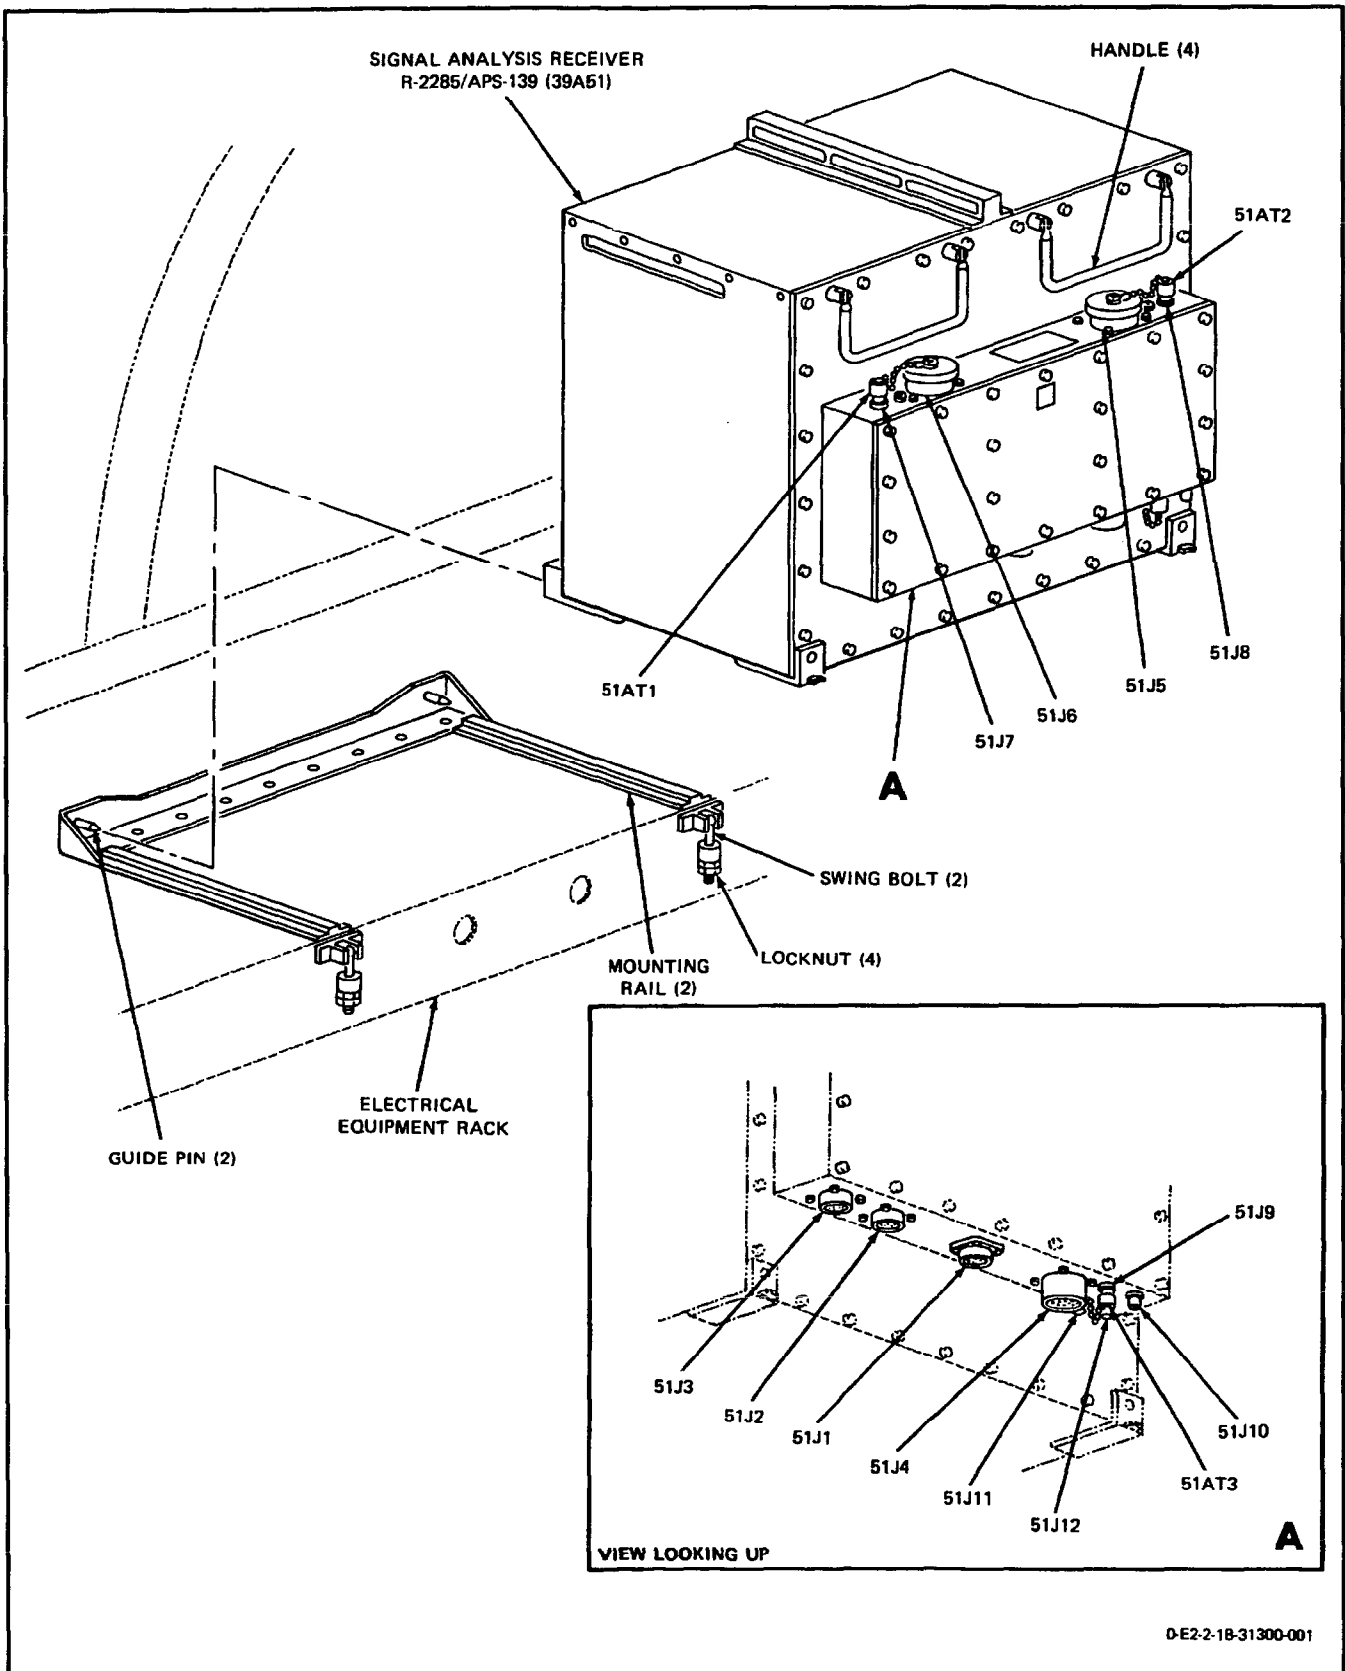

Figure 1. Removal and Installation of Signal Analysis Receiver R-2285/APS-139
**3. REMOVAL.** (Figure 1.)
#### 4. INSTALLATION. (Figure 1.)